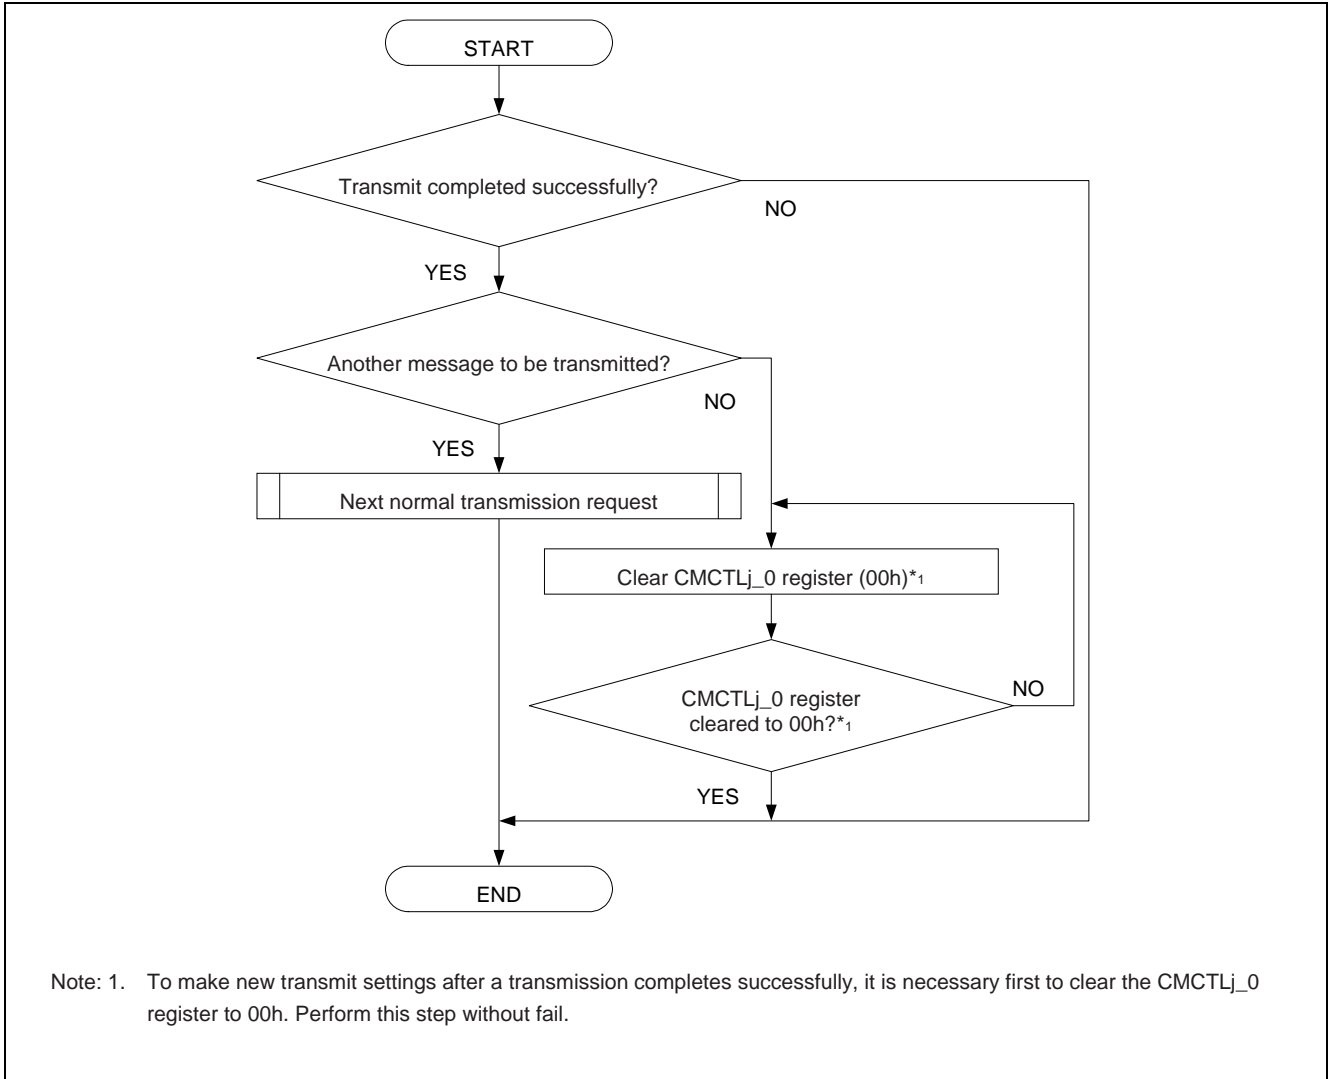

Figure 2.8 Normal Transmission Complete Procedure
(2) Normal Transmission Complete Processing
Figure 2.8 shows the necessary procedure following normal transmission complete. For details on performing the succeeding normal transmission request, see section (1) Normal Transmission Request.